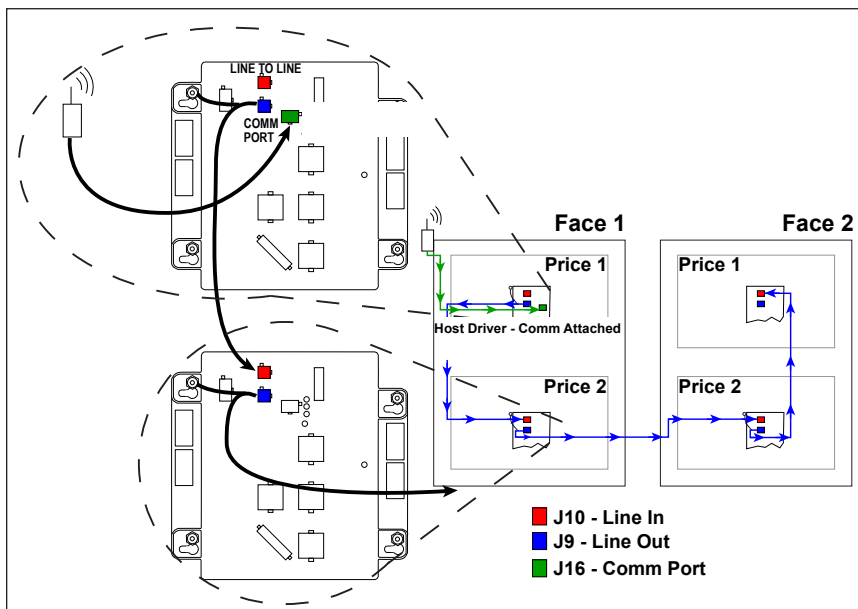

Figure 9: Line-to-Line Cable Installation
- Route the provided line-to-line cable from the host driver jack J9 to the next client display driver, connecting to jack J10. Refer to **Figure 9**.